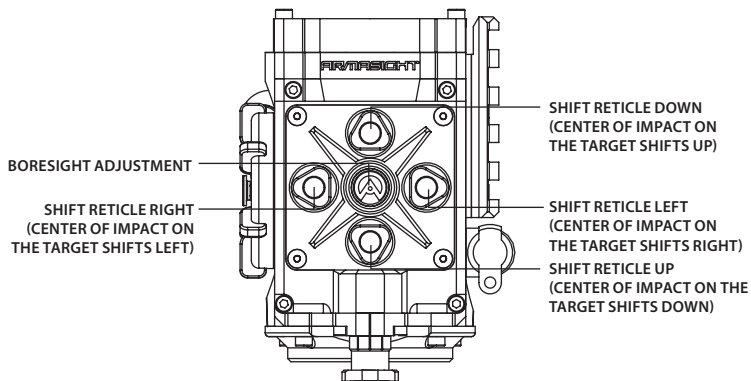

FIGURE 3-18. BORESIGHT ADJUSTMENT BUTTONS
9. Use the buttons on the control panel to apply corrections required to bring the center of impact as close as possible to the target center (refer to Figure 3-18).